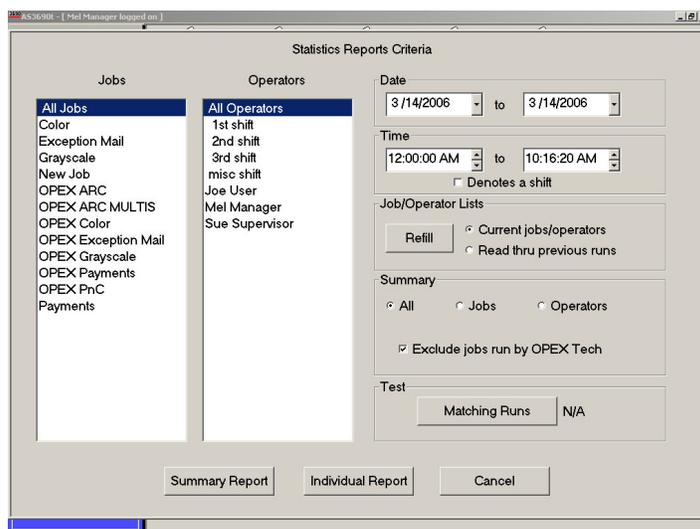

FIGURE 32: Statistics Reports Criteria screen
- 3 In the Statistics Reports Criteria window, set the parameters for the report as shown in Figure 32: